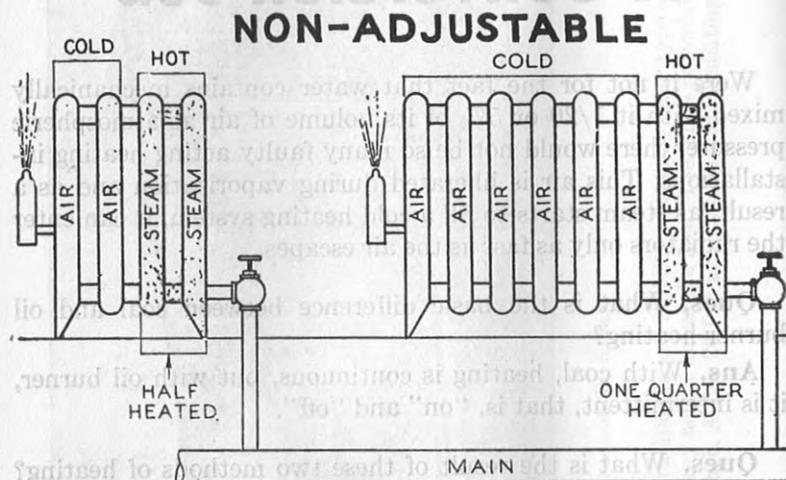

FIG. 1—Unequal heating of small and large radiators with non-adjustable air valves.
Fig. 1 shows a small and large radiator connected to main. Since the cheap non-adjustable air valves allow air to escape from each at same rate, when half of the small radiator becomes heated, as in fig. 1, only one quarter of the large radiator is heated.
**Ques.** How can the radiators shown in fig. 1 be made to heat at the same rate?